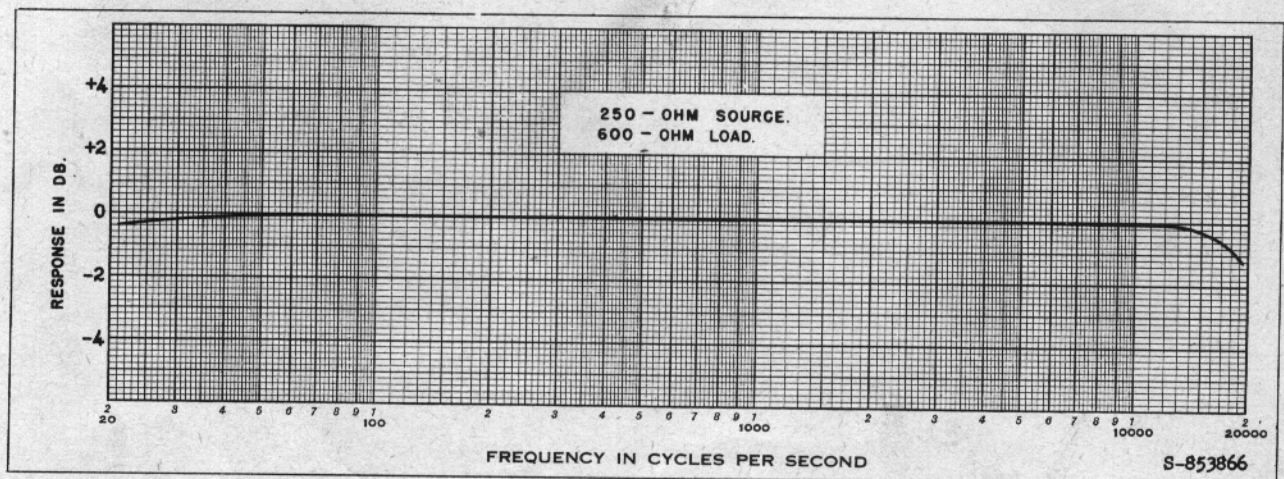

Figure 3—Normal frequency response of Type BA-1A Preamplifier.
±1 db from 30 cps to 15,000 cps when operating from a 250-ohm source to a 600-ohm load. Refer to figure 3.
19. The frequency response curve for this preamplifier under normal operating conditions is shown in figure 3. For certain applications it may be desirable to obtain compensation in the form of a rising characteristic toward either the high-frequency or the low-frequency ends of the curve.